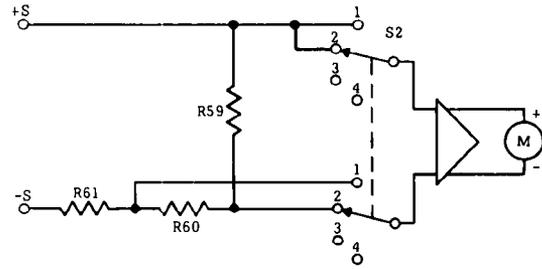

Figure 4-8. Voltmeter Connections, Simplified Schematic
4-34 Figures 4-8 and 4-9 show the meter connections when the METER section of S2 is in the higher voltage and current range positions, respectively. For the sake of simplicity, some of the actual circuit components are not shown on these drawings. With the METER switch in the higher voltage range, position 2, the voltage drop across R59 is the input to the meter amplifier and the meter indicates the output voltage across the +S and -S terminals. For low output voltages, S2 can be switched to the 5V position (1) resulting in the application of a larger percentage of the output voltage (drop across R59 and R60) to the meter amplifier.